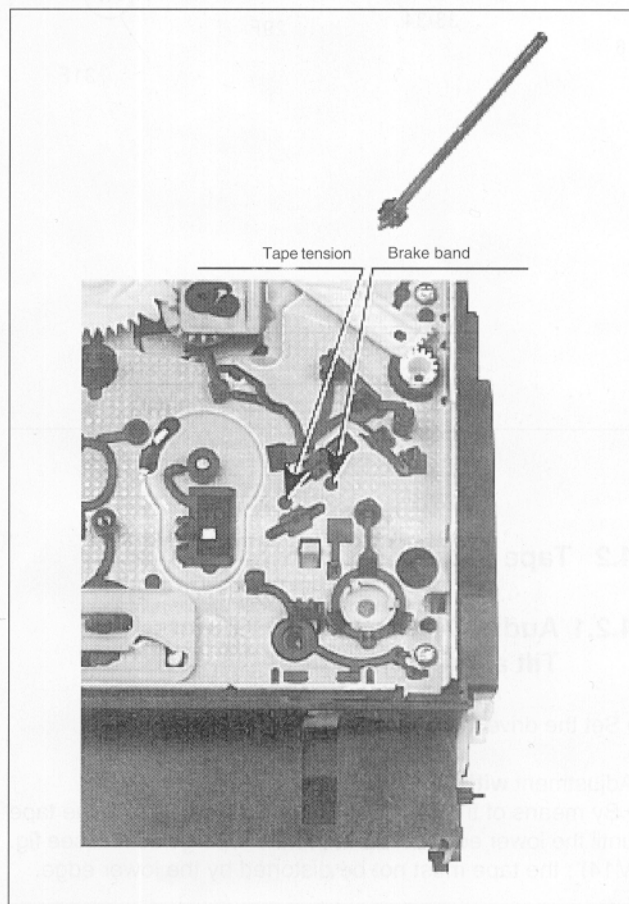

Fig. M10
- Adjust the brake band by means of adjusting tool (from the underside of the deck) until the edge of the elbow of the tape tension arm overlaps with the left inner edge of the left guide (see fig. M10/M11).
- Adjust (from the underside of the drive) the tension arm spring, pos. 11, to a tape tension of $0.24\text{N} \pm 0.02\text{N}$ e.g. $24\text{g} \pm 2\text{g}$ with the adjustment tool (see fig. M10/11).